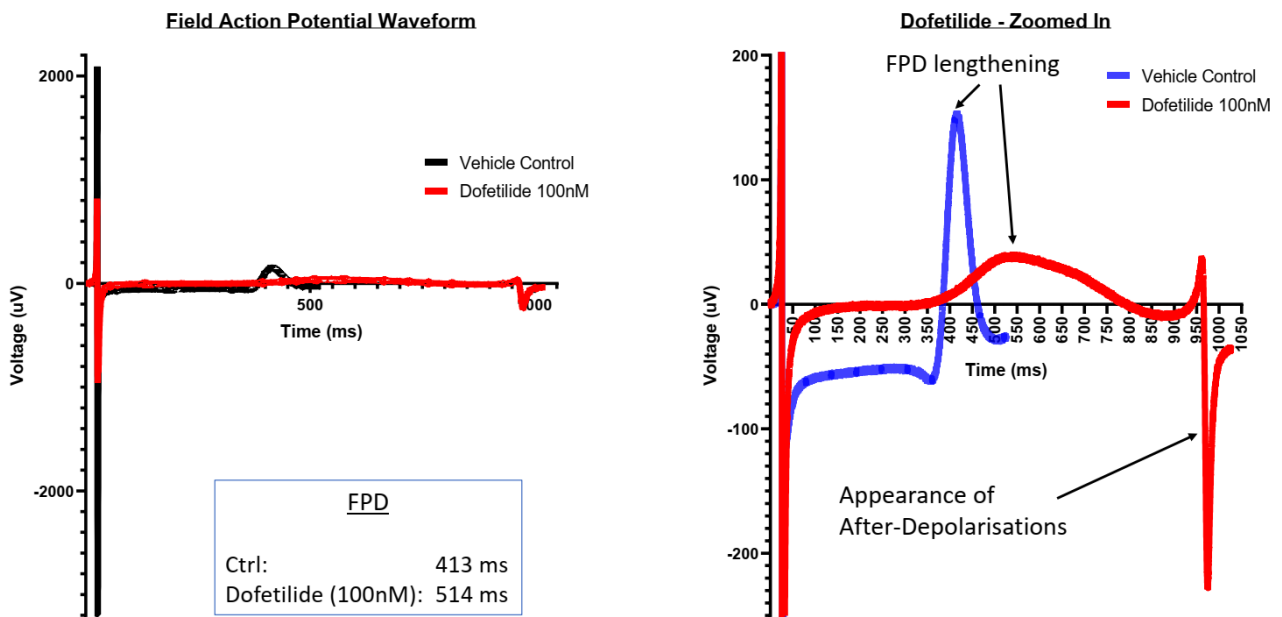

Figure 4 Acute Cardiotoxicity Example
- For acute cardiotoxicity studies, 100nM Dofetilide will rapidly induce significant FDP lengthening, the appearance of after-depolarisations and the appearance of arrhythmias (Figure 4).